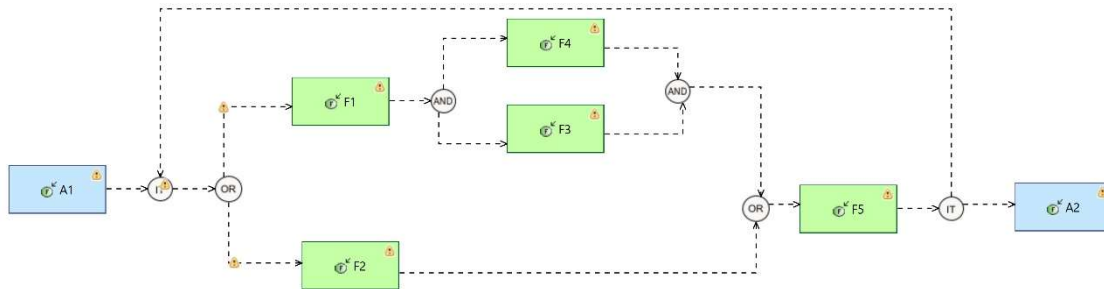

Figure 7 Functional Chain Description with Control Nodes
- Add control nodes and sequence links. An example is shown in Figure 7.